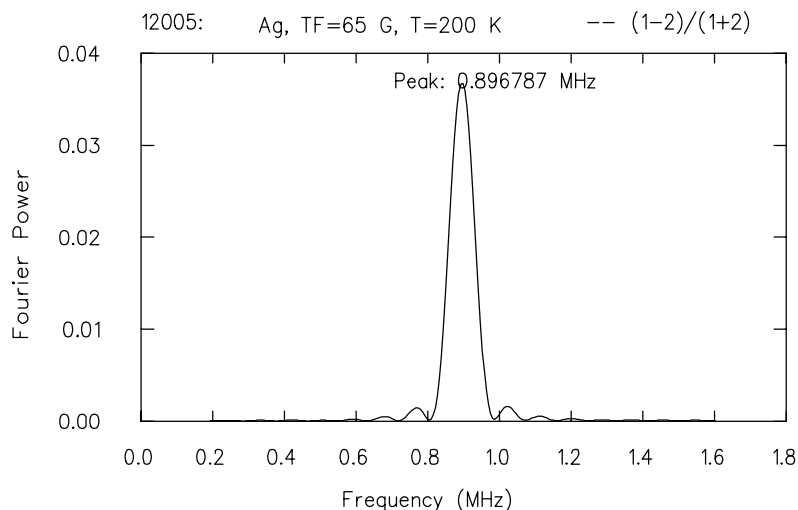

Figure 4.6: Typical output of the FRQ macro.
**FRQ** This would be called `FFT` were it not for the fact that `FFT` is a native `PLOTDATA` command. This forms  $A(t)$  as in `ASY`, removes any constant “baseline” and performs a Fast Fourier Transform. The resultant frequency spectrum is plotted between the limits `FRQ1` and `FRQ2`, if they are nonzero, or over the  $\pm 64$  frequency bins centered on the peak frequency `PKFRQ` if `FRQ1` or `FRQ2` is zero Fig. 4.6. Only the first 1 or 2 Histograms are used in the FFT.